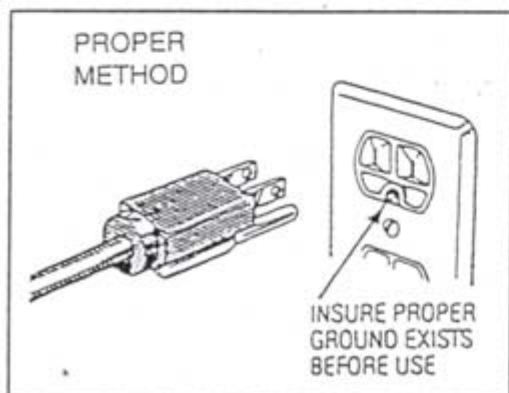

Fig. 1 RIGHT
- 5.) THIS MACHINE IS PROVIDED WITH A THREE-PRONG GROUNDING PLUG. THE OUTLET TO WHICH THIS PLUG IS CONNECTED MUST BE PROPERLY GROUNDED. IF THE RECEPTACLE IS NOT THE PROPER GROUNDING TYPE, CONTACT AN ELECTRICIAN. DO NOT UNDER ANY CIRCUMSTANCES CUT OR REMOVE THE THIRD (GROUND PRONG) FROM THE POWER CORD OR USE ANY ADAPTER PLUG. (SEE FIG. 1, 2)